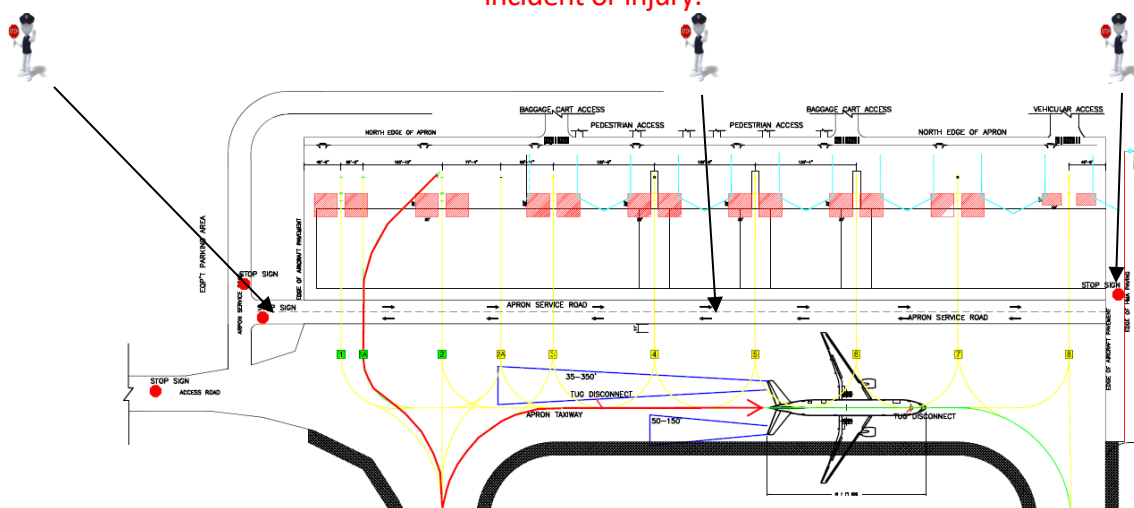

Figure 3
When ready to depart, with Marshal in position at the nose of the aircraft and a wing walker on each wing, communication is established with the aircrew to verify permission has been granted to push-back. The Marshal will signal his intention to move the aircraft back and the wing walkers shall face the driving lane and walk forward, taking up a position in the driving lane in order to ensure traffic is stopped in all directions to accommodate safe passage of the aircraft. As each wing clears the driving lane the wing walkers will respectively move with that wing. Before disconnecting the tow tractor will **ensure aircraft nose wheel is properly centered on taxiway line** at a point behind the designated “Tug Disconnect” marker near taxiway “C” (see figure 3). At this point the Marshal can now signal for the pilot to start their engines.
- i. AOCC Airport Duty Officer will contact the Airside Duty Officer, Safety Office, and Security Office and dispatch appropriate personnel to take up post as shown in **figure 3** in order to stop the flow of traffic in the driving lane;
- III. With Marshal in position at the nose of the aircraft and a wing walker on each wing, communication is established with the aircrew to verify permission has been granted to push-back. The Marshal will signal his intention to move the aircraft back and the wing walkers shall face the driving lane and walk forward, taking up a position in the driving lane in order to ensure traffic is stopped in all directions to accommodate safe passage of the aircraft. As each wing clears the driving lane the wing walkers will respectively move with that wing. The Aircraft will be pushed back to a point on taxiway "C" and then pulled forward on the taxilane in the direction of taxiway 'D'. Before disconnecting, the tow tractor driver will **ensure aircraft nose wheel is properly centered on taxiway line** at a point behind the designated "Tug Disconnect" marker near taxiway "D" (see figure 3 below). At this point the Marshal can now signal for the pilot to start their engines.
Note- When approaching the painted "STOP" signs on the ground at the entryways to the Commercial Apron vehicular service lane (Figure 3), or attempting to enter this lane from any other location on the Apron, all drivers will come to a full stop and look for signs of aircraft movement in any direction. In the event that an aircraft, wing walkers, or other personnel directing traffic are present in the apron driving lane, do not proceed into the lane but rather wait until the aircraft or personnel have exited the driving lane before continuing on your journey. If you are already in this driving lane please give way to aircraft and vacate lane as soon as possible to avoid incident or injury.